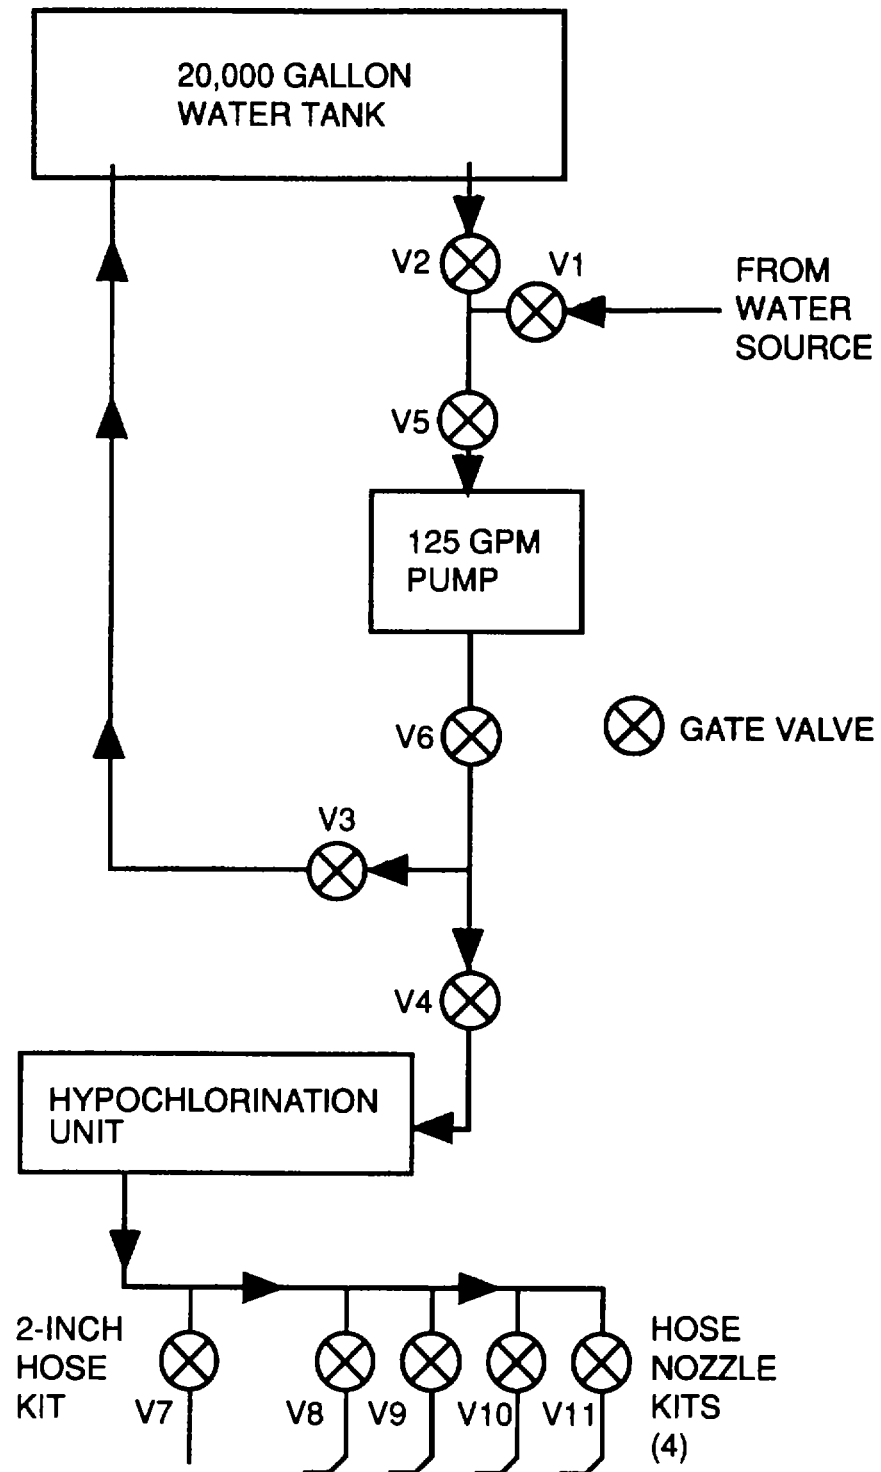

Figure 2-9. Water System Control Valves
- b. Water System Diagram. Refer to Figure 2-9. Water flow to and from the collapsible fabric tank is controlled by gate valves identified by the prefix "V." By opening or closing the respective gate valves, the tank may be filled or discharged.
- c. Startup. Refer to Figure 2-9.
Discharge Mode. Refer to Figure 2-9.
- (9) To dispense water through 2-inch hose connection kit, proceed as follows:
- (10) To dispense water through hose nozzle connection kits, proceed as follows:
- (11) When discharge mode is complete, shut down the 125 gpm pump (refer to the applicable TM).
d. **Shutdown.** Refer to Figure 2-9.
- (1) Shut down 125 gpm pump. Refer to the applicable TM.
- (2) Close gate valves V1 through V11 (if open).
- (3) Shut down hypochlorination unit. Refer to the applicable TM.